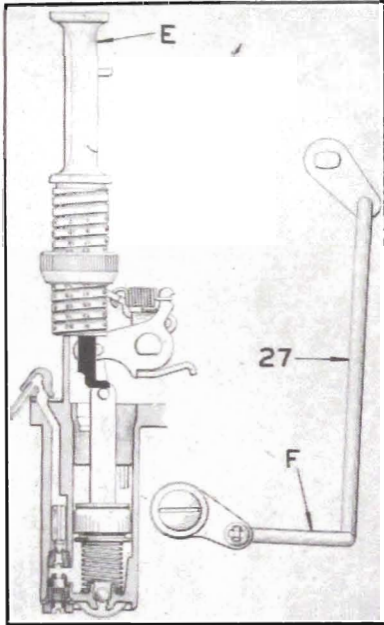

Fig. 6-81. Use of Pump Travel Gauge
- the pump and metering rod. See Fig. 6-81.